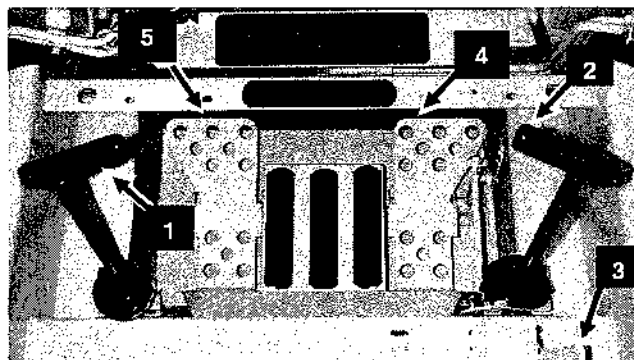

Fig. 17: 4525/4625 Hand & Foot Controls
**Hand & Foot Controlled Loaders (Fig. 17):** To raise the Liftarm, use your heel to push down on the rear of the left Foot Pedal. To lower the Liftarm, use your toe to push down on the front of the left Pedal.